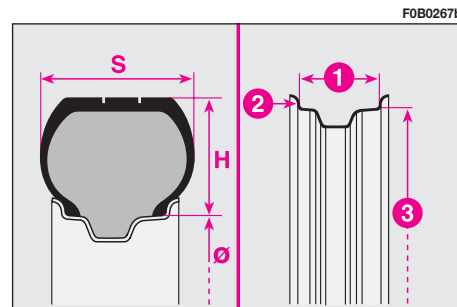

fig. 6
The following are the necessary instructions to understand the meaning of the markings on the rim, as shown in **fig. 6**.
**6 1/2** = rim width in inches **1**-fig. 6;
**J** = rim drop centre outline (side projection where the tyre bead rests) **2**-fig. 6;
**15** = rim nominal diameter in inches (corresponds to diameter of the tyre to be mounted) **3**-fig. 6;